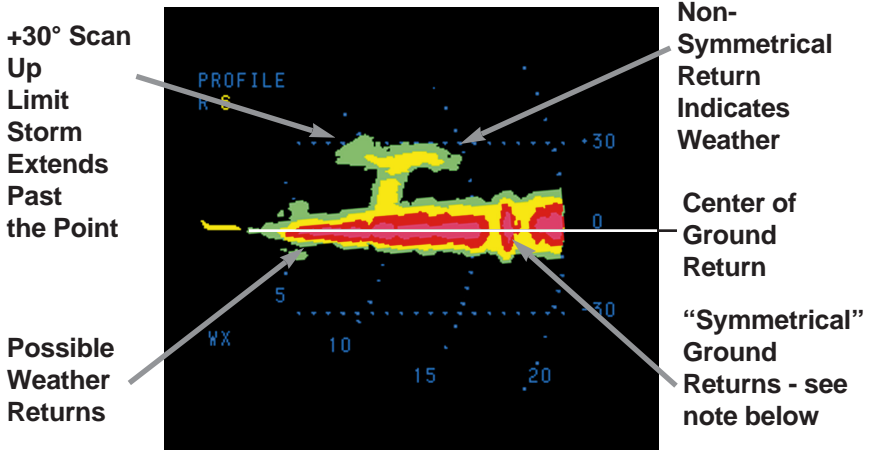

**Figure 9: Vertical Profile View
**Figure 9:** 40 nm range selected showing normal ground returns out to 25 nautical miles. At 20 nautical miles the RDR 2000 shows an area of isolated precipitation between the aircraft and the major storm which starts at 25 nautical miles. This “Roll Cloud” is a fairly typical phenomenon associated with severe weather. The aircraft is at 20,000 feet MSL.